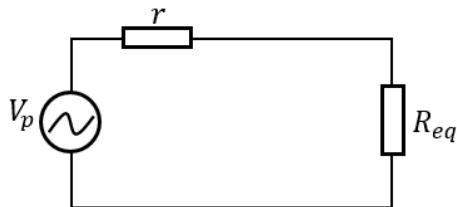

Figure 5: Twin-impedance circuit for amplifier problem with speaker
One of the most common uses of the transformer is to increase the efficiency of transferring power from a power source to a load. Suppose we desire to obtain the maximum possible power which amplifies against internal resistance r and can supply to a speaker with R_L Resistance. The speaker will be connected to an amplifier via a transformer. The equivalent resistance is calculated for the transformer and speaker together: $R_{eq} = a^2 R_L$. We obtained an equivalent circuit as shown in Figure 5. In this type of circuit, we obtain a maximum power of R_{eq} where $r = R_{eq}$. In order that this condition exist, a transformer with the appropriate ratio of bindings (a) is selected and maximum power is obtained for an equivalent Resistor R_{eq} and therefore for the speaker as well. The method of power supply is called **impedance coordination**.
3. Prove that for the circuit in Figure 5 we obtain maximum power on the resistor R_{eq} where $r = R_{eq}$. Hints: Find the expression of the power developing on the resistor R_{eq} using the parameters V_p, r, R_{eq} , reduce the expression by R_{eq} and compare to 0.